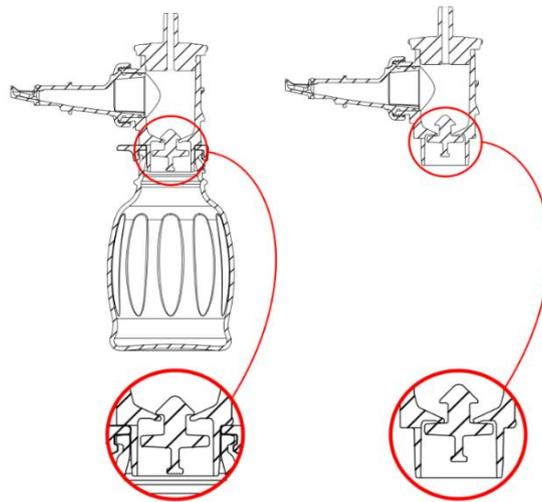

Fig. 6
- During the sampling operation the shut-off valve (ref.41) opens automatically (Fig. 6)
- During this operation the shut off valve ref. 41 closes the vacuum (maximum vacuum consumption 10 l/min @50kPa (0.35 ft³/min @ 14.76 "Hg) – Fig. 6). The shut off valve opens again automatically and enables the milk transit for sampling only when the user screws the bowl.